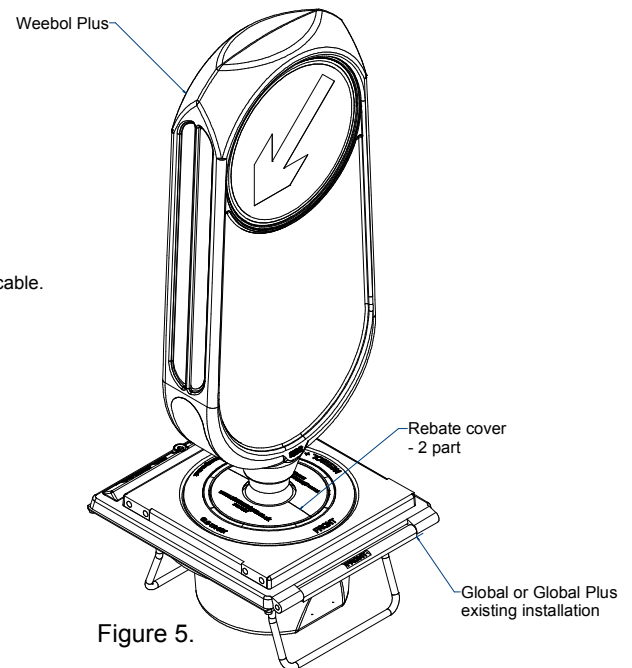

Figure 5.
- 13) Engage the 2 parts of the rebate cover together & place over the Weebol fixings/ lower plinth. Ensure that the split line is aligned with the embossed "FRONT" on the Weebol Transition Casting Assembly - Figure 5.